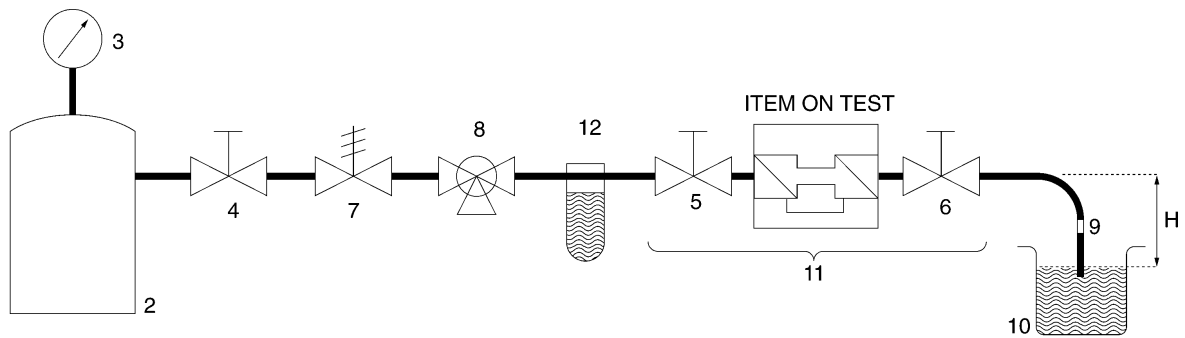

Figure 17
- (1) Set up the device to be tested as shown in Figure 17 and in accordance with setting-up procedure IGN 1-50-64.
- (2) Open the full way valve and apply a vacuum of 0.5 bar and hold for 5 minutes \pm 10 seconds.
- (3) Observe the water level in the transparent tube.
- (4) Relieve the upstream vacuum.
- (5) Repeat stages (2) to (4) a total of five times at 5 ± 2 second intervals, observing and recording the water level in the transparent tube.
- (6) Foul both check valves as stated in Appendix J. (See sheet 3).
- (7) Repeat stage (5).